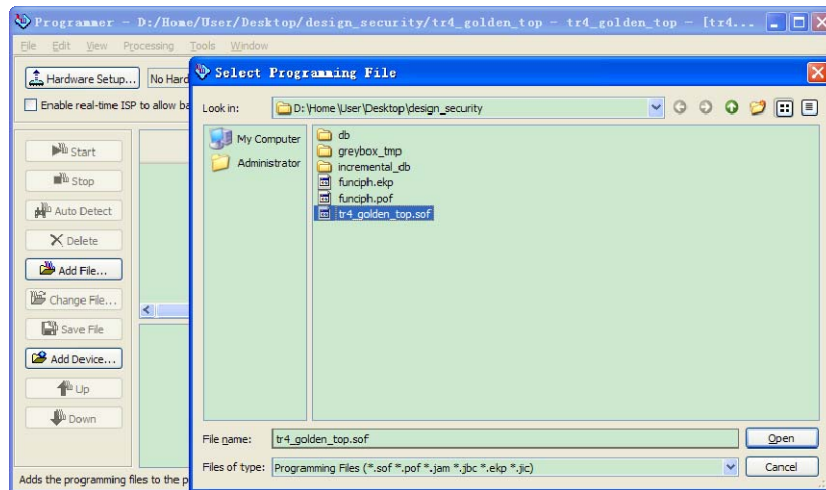

Figure 3-16 Adding SOF for PFL
2. In the Programmer window, click **Add File**. The **Select Programming File** dialog box appears, as shown in Figure 3-16.
13. Highlight <filename>.sof file, click **delete**. All files in the programmer window are excluded. Then click **Add file**, shown as Figure 3-16, select <filename>.ekp, and click **Open**, The programmer shown as Figure 3-21.